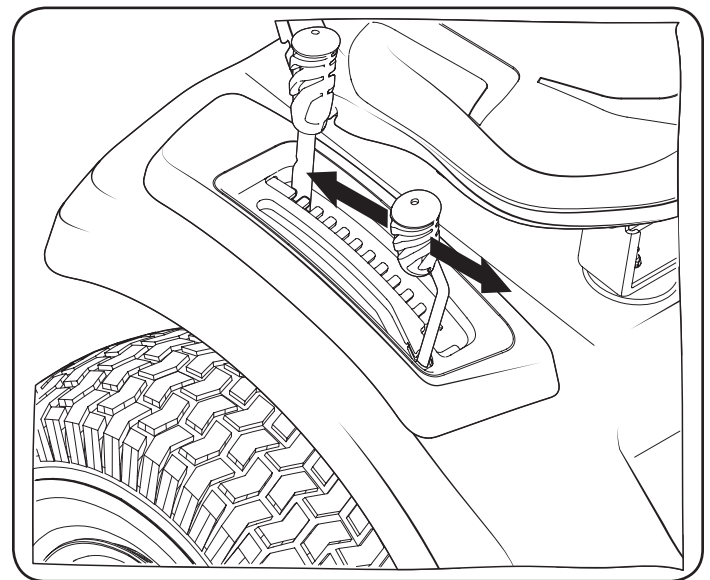

Figure 13
2. Push the PTO handle forward into the engaged (ON) position. See Figure 13.